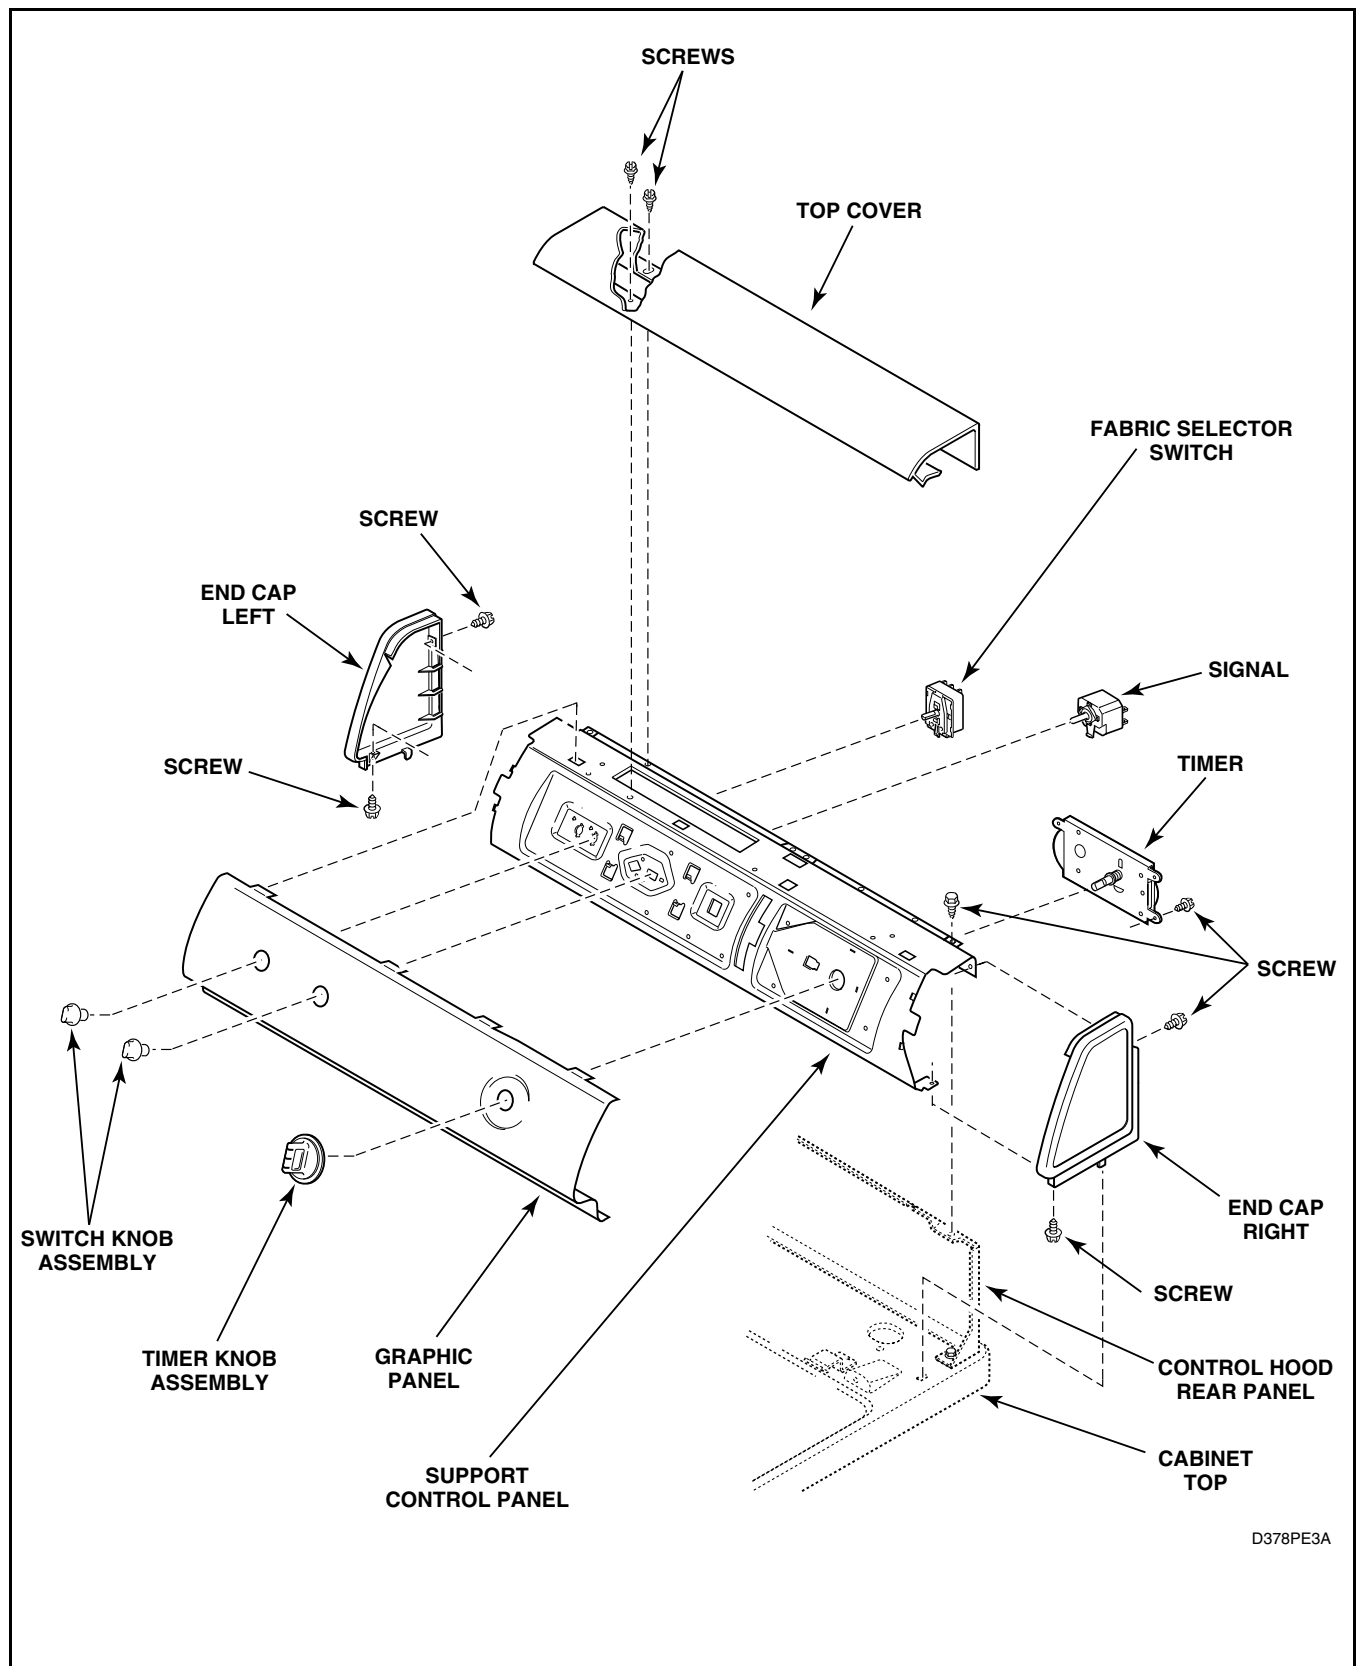

Figure 5
(Figure 5)
- a. Remove two control panel attaching screws and lay panel face down on protective padding on cabinet top. Refer to Figure 5.
- b. Disconnect all wires to fabric selector switch, push-to-start switch and indicator light and remove ground clip and screw holding ground wire to cabinet top and control panel. Refer to Figure 5.
- c. Loosen setscrew holding switch knob to shaft and pull knob off shaft. Refer to Figure 5.
- d. Remove knurled nut holding fabric selector switch to panel and remove switch. Refer to Figure 5.
- e. Remove hex nut from push-to-start switch and remove switch. Refer to Figure 5.
- f. Squeeze locking tabs on indicator light and pull light out from back of panel. Refer to Figure 5.